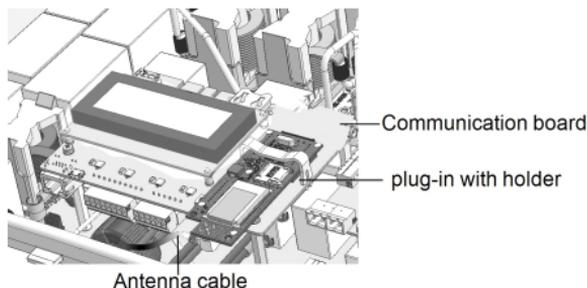

Figure 18: Installed plug-in
4. Insert the supplied plug-in in its place on the communication board. Make sure that the plug-in is firmly in place (see *Figure 18*).